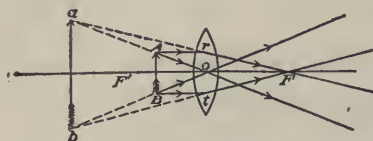

FIG. 384.—Construction of a virtual image by a convex lens.
the object is at P the rays become parallel and no image is formed. (E) When the object is between P and the lens, the rays *appear to proceed from points back of the object*, thus forming an *erect, larger, virtual image* of the object. (See Fig. 384.) This last arrangement illustrates the *simple microscope*.